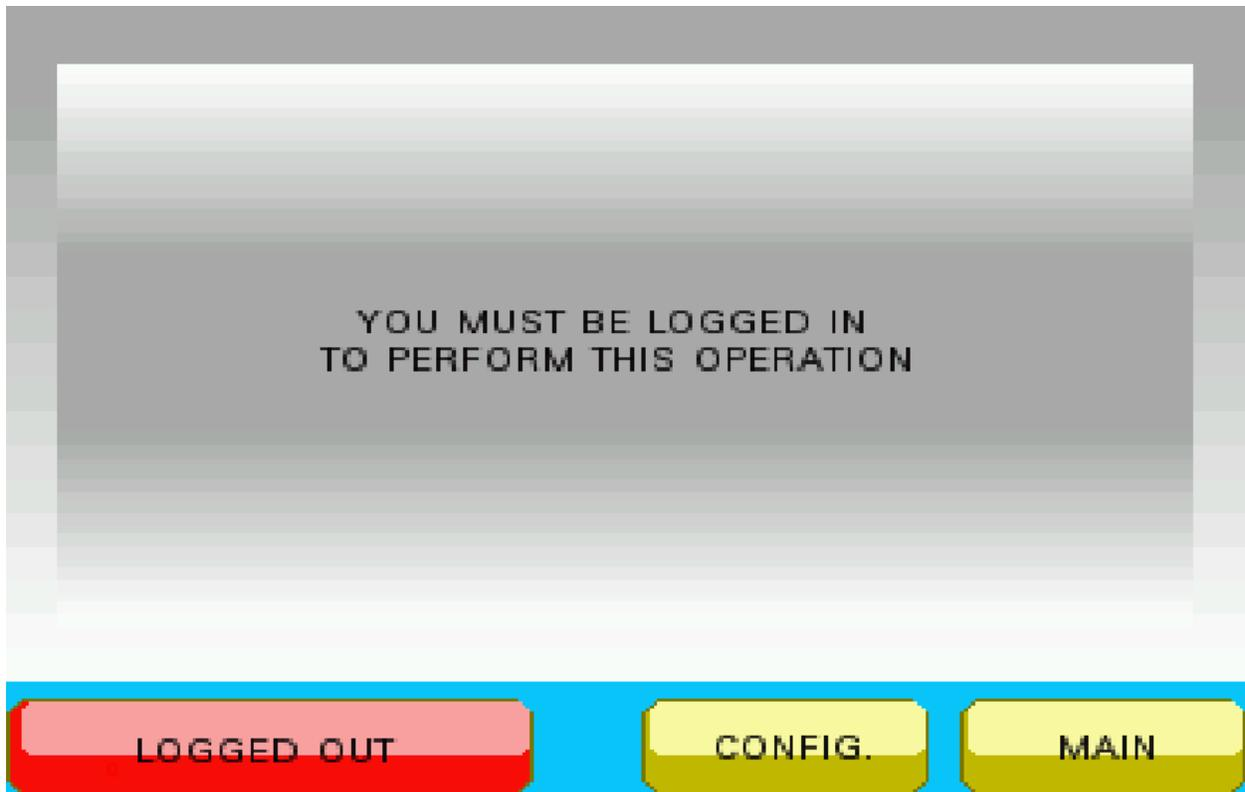
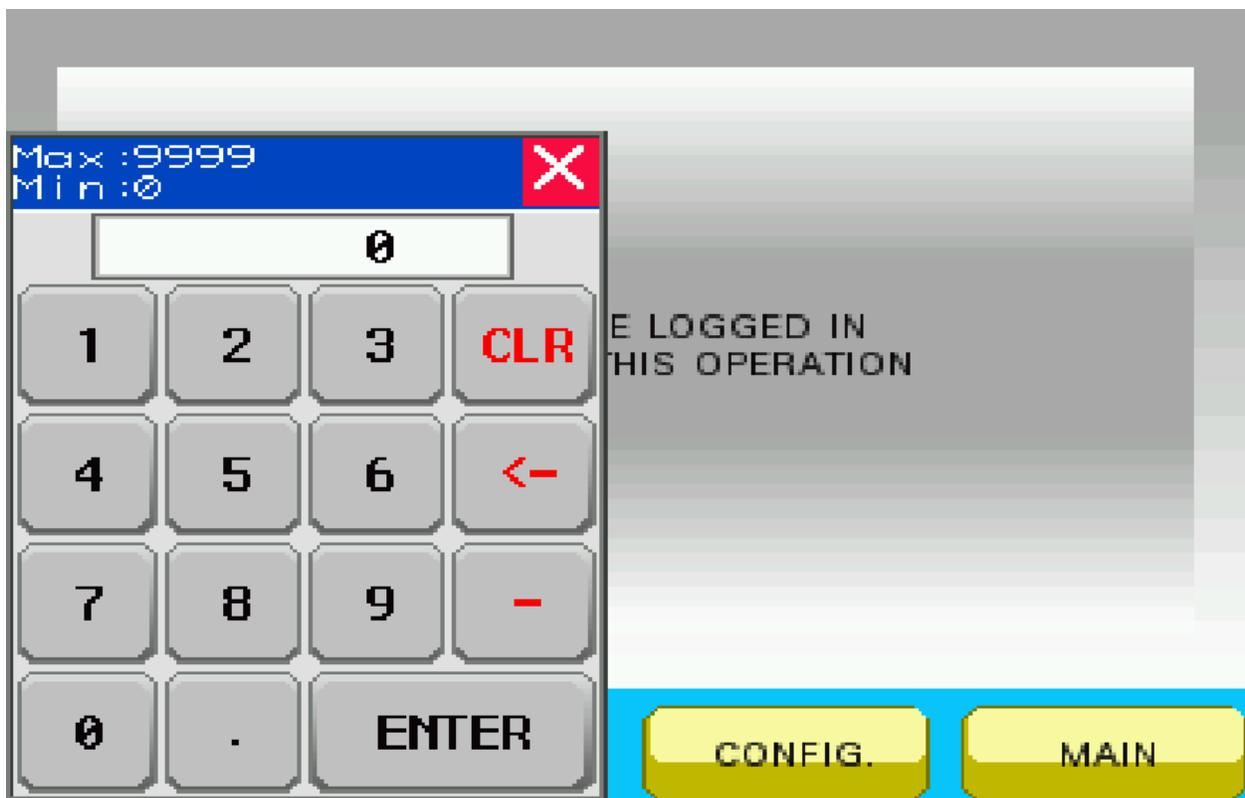

Figure 1.2
Figure 1.3
3. To change any parameters on any screen you must be logged in. If you make an attempt to change any setpoint without being logged in you will see a login error message pop up like figure 1.2 below. To login press the red LOGGED OUT button on the bottom of the screen. You will now see a keypad pop up in the bottom left corner of the screen like figure 1.3 below.